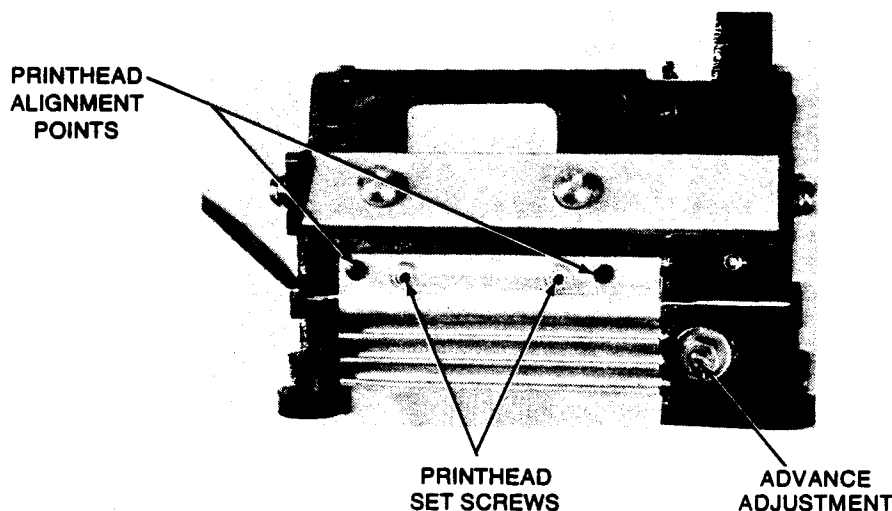

Figure 2-10. Printer Adjustments
- Loosen the lock nut on the advance adjustment screw (see Figure 2-10).